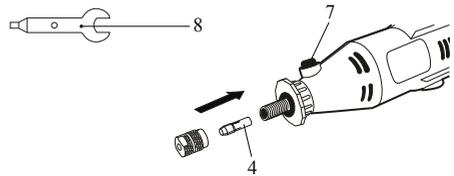

Fig. 2
6.1 Insertion and removal of accessories (Fig. 2)